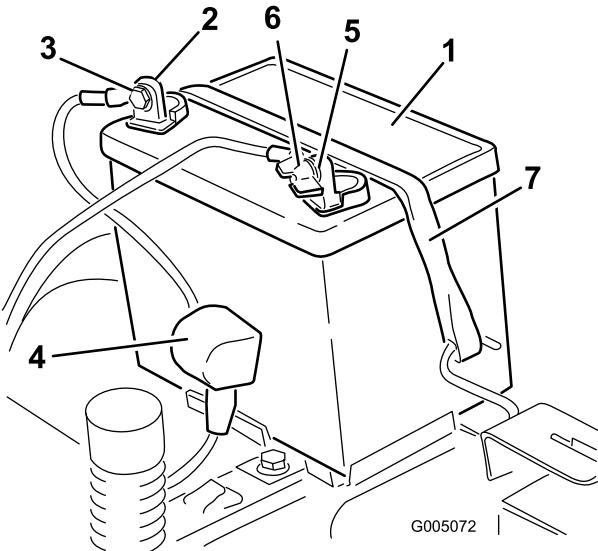

Figure 40
- Disconnect the negative (black) ground cable from the battery post (Figure 40).
- Disconnect the positive (red) cable from the battery post (Figure 40).
- Remove the battery hold-down (Figure 40), and lift the battery from the battery tray.
1. Position the battery in the tray (Figure 40).
5. Secure the battery with the hold-down (Figure 40).